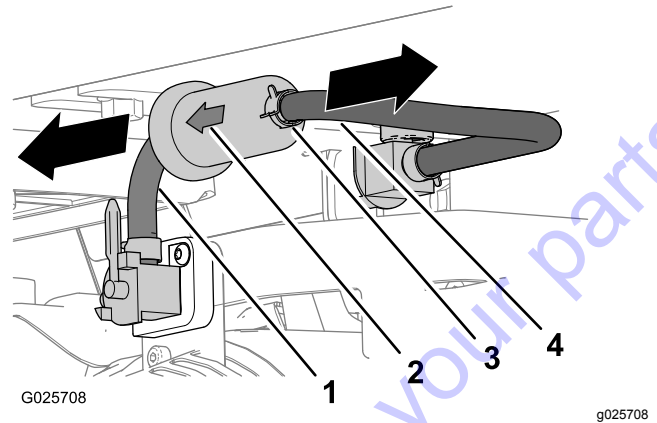

Figure 25
6. Remove the hose clamps and hose from the barbed fitting at fuel filter (Figure 25).
7. Align the arrow on the case of the new fuel filter to correspond with the fuel flow to the engine (Figure 25).
8. Insert the barbed fitting of the fuel filter into the hose from the engine switch (Figure 25).
9. Insert the barbed fitting at the other end of the fuel filter into the hose attached to the tank-shutoff valve (Figure 25).